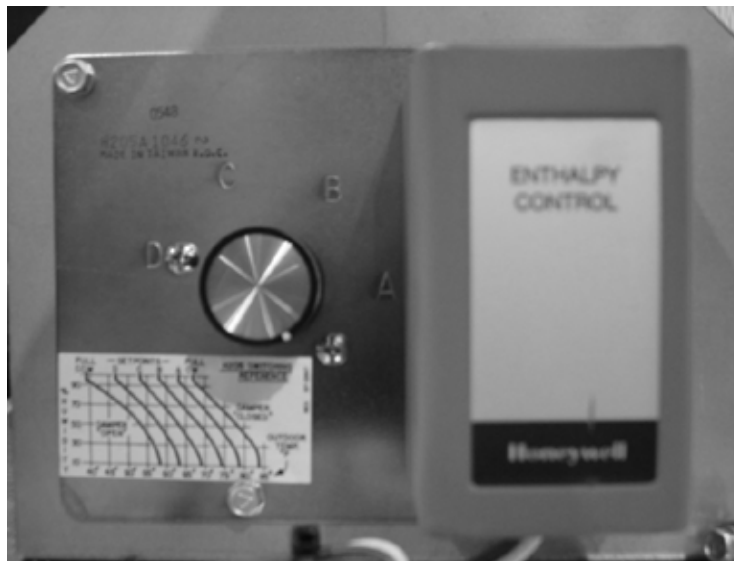

Figure M1 - Enthalpy Changeover Dial
**B = 3 Position Actuator with Enthalpy Limit** - Economizer actuator with three positions. Position one is the closed position. Position two is the minimum outside air position, which is activated when there is a call for fan operation. Position three is the economizer mode position with outside air dampers fully open. The minimum outside air position can be field adjusted for the desired amount of outside air. Changeover control responds to sensible and latent heat of the ambient air. See Figure M1, Enthalpy Changeover Dial, and Table M4, Enthalpy Changeover Adjustment. The actuator is spring return closed.
**D = Fully Modulating Actuator with Enthalpy Limit** - Fully modulating economizer actuator with two positions. Position one is the closed position. Position two is the minimum outside air position, which is activated when there is a call for fan operation. During the economizer mode actuator modulates between minimum outside air position and having the outside air dampers fully open to maintain a discharge temperature of 55°F. The minimum outside air position can be field adjusted for the desired amount of outside air. Changeover control responds to sensible and latent heat of the ambient air. See Figure M1, Enthalpy Changeover Dial, and Table M4, Enthalpy Changeover Adjustment. The actuator is spring return closed.
**T = Dual Minimum Position Potentiometers with Fully Modulating Actuator with Enthalpy Limit** - Fully modulating economizer with enthalpy limit actuator with two minimum position potentiometers. Remote contact closure will allow the outside air to open the second minimum setting. During the economizer mode actuator modulates between minimum outside air position and having the outside air dampers fully open to maintain a discharge temperature of 55°F. The minimum outside air positions can be field adjusted for the desired amount of outside air. Changeover control responds to sensible and latent heat of the ambient air. See Figure M1, Enthalpy Changeover Dial, and Table M4, Enthalpy Changeover Adjustment. The actuator is spring return closed.